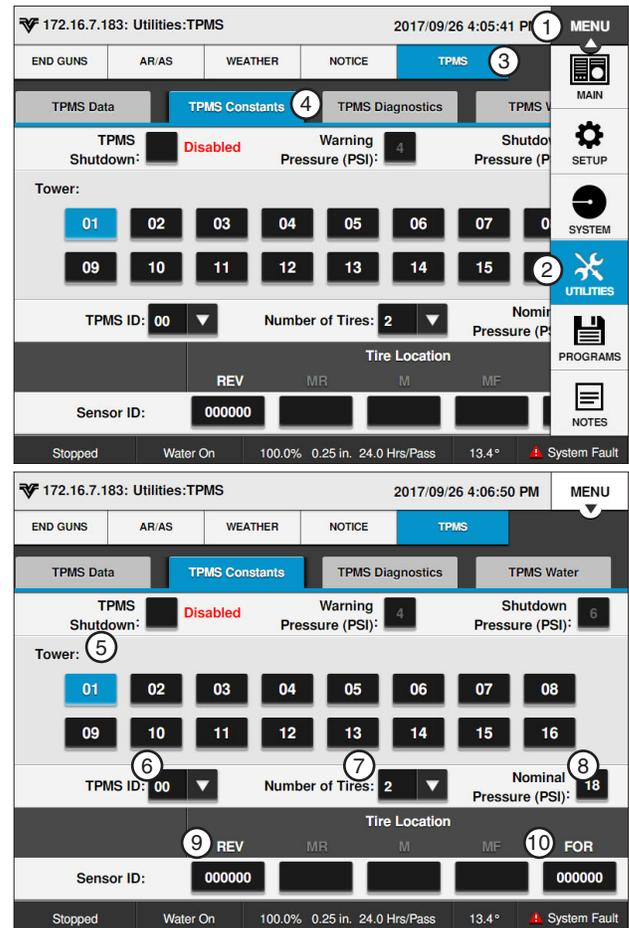

Figure 83-1
The TPMS Sensor Setup screen is used to set the following sensors for any tower. Refer to Figure 83-1.
2. Select the tower number. Tower 1 is the tower closest to the pivot point. The range is 1-16. Refer to Figure 83-1.
8. Select one of the **Sensor ID** fields. Refer to Figure 83-1.
- Three tires - Enter the reverse tire sensor ID, the mid (M) tire sensor ID and the forward tire sensor ID
- Four tires - Enter the reverse tire sensor ID, the mid-reverse (MR) tire sensor ID, the mid-forward (MF) tire sensor ID and the forward tire sensor ID